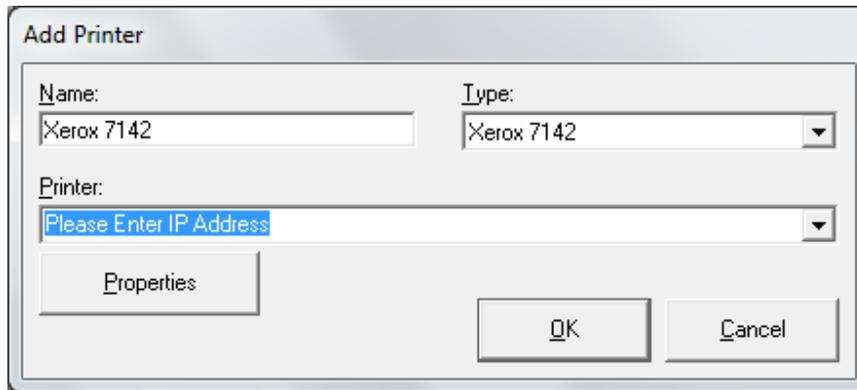

Fig 1-5
1. Once **Manage Printers** opens, **Add Printer** will open automatically (Fig 1-5). If not, click [New] below the **Manage Printers** field.